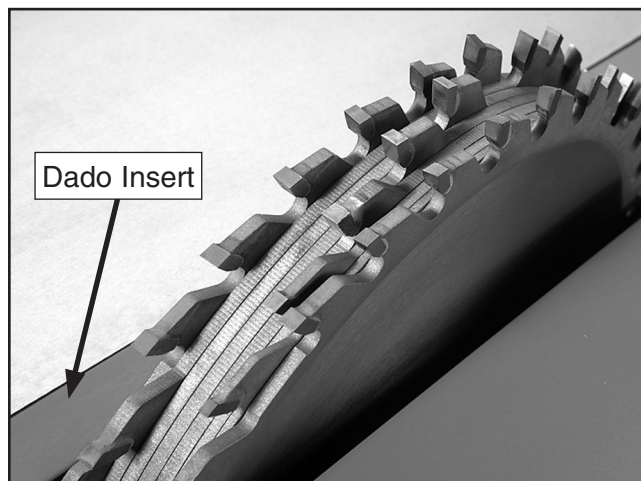

Figure 4. Dado blades installed in table saw.
- Secure the dado blades with the arbor nut and flange, then install the dado insert as shown in **Figure 4**. Use a narrower dado stack and make multiple cuts if the arbor nut and flange will not fully thread onto the arbor.